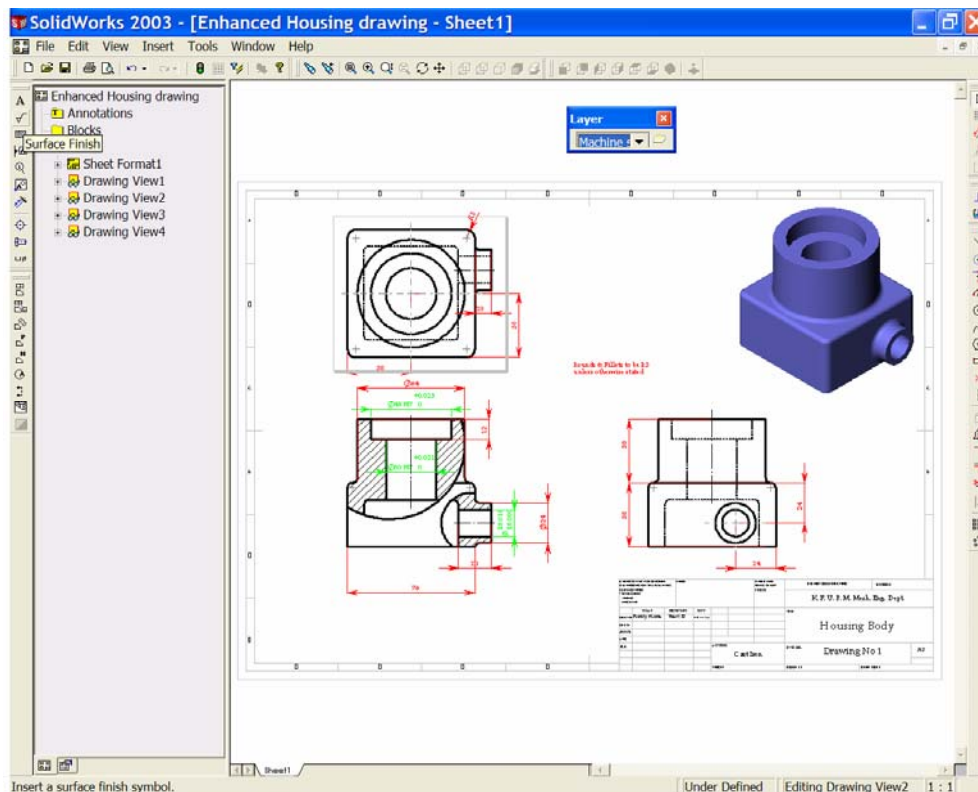

Figure 10
13. Use the '**Zoom to Area**' tool  to look more closely at $\varnothing 16$. You will notice that the data does not fit well into the available space. We can display the data in several ways. In the '**Tolerance Type**' window select '**Limit**'. Notice that the maximum and minimum limits are now displayed for this dimension, and that it fits better into the space. Use '**Zoom to Fit**'  to return to the full drawing. See Figure 10.
14. We need to add machine symbols (surface texture/finish) to the drawing where they are needed. Set the '**Machine Symbols layer**' active. From the '**Annotations Toolbar**' select '**Surface Finish**'. See Figure 10.